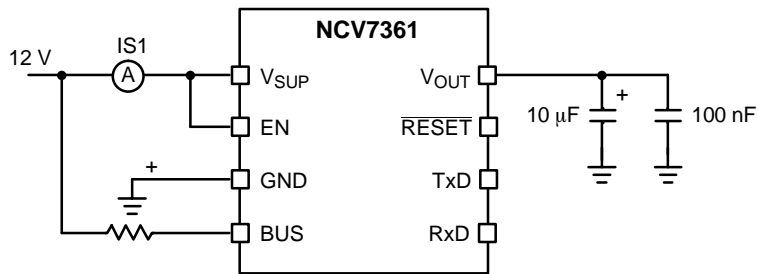

Figure 5. Test Circuit for Supply Current I_{Sn1}
4. See Figure 5 for test setup.